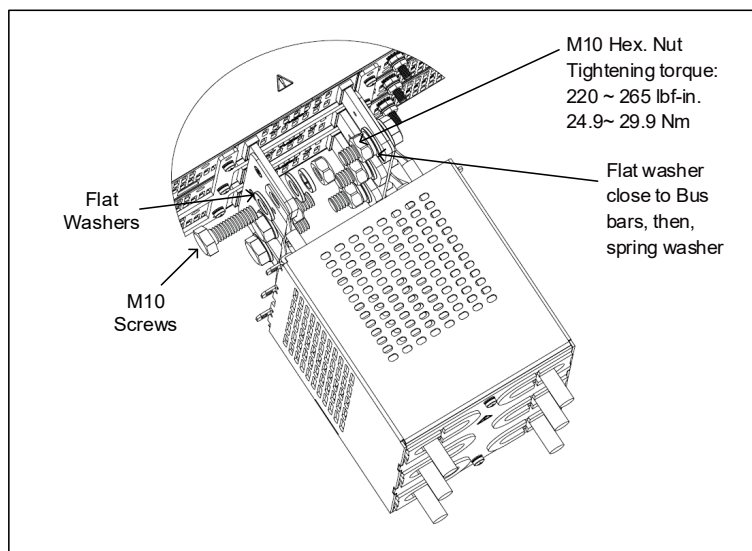

Figure 4-27: Assembly of 60V ÷ 100V Wires
2. Fix the wires to the Bus bars as shown in Figure 4-27 (15kW is shown, it applies to 10kW as well).